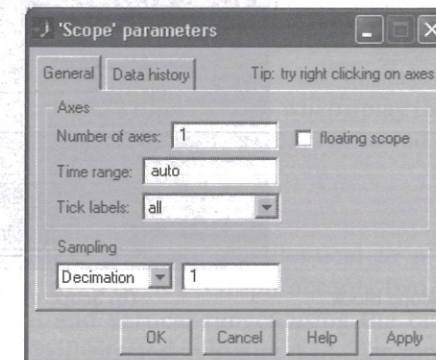

FIGURE 4.10: Scope parameters **General** page
**Scope Parameters Dialog Box.** The **Parameters** button opens the Scope Parameters dialog box, which has two pages. The **General** page (Figure 4.10) has fields to set the number of axes and time range and to control the spacing between plotted points. The **Data history** page (Figure 4.11) has fields to control the size of the scope data buffer and to send the displayed data to the MATLAB workspace.
The **General** page (Figure 4.10) has two sections. The **Axes** section controls the number and configuration of axes. **Number of axes** controls the number of axes displayed in the scope window and the number of inputs to the Scope block. There will be one input for each axis. For example, setting **Number of axes** to 2 produces the scope block and display shown in Figure 4.12. Checking **floating scope** converts the Scope block to a Floating scope block, which has no inputs. A floating scope block displays a signal line that is selected during the execution of a simulation. Note that in order to use a Floating scope block with many Simulink blocks, it is necessary to disable **Signal storage reuse** in the **Simulation:Parameters** dialog box **Advanced** page, to be discussed in Section 4.10. **Time range** controls the scale of the time axis. If set to **auto**, the scale will range from zero to the final simulation time. If set to a number greater than zero, the time range will be zero to the value entered.